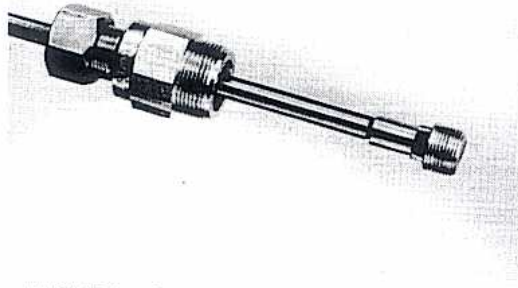

FIGURE 48
3. Attach completion plug to the boring bar or shaft. Lubricate these threads and be sure that these threads screw together freely without binding. Apply non-hardening pipe thread "dope" to the completion plug threads. FIGURE 48. (If installing a  $\frac{3}{4}$ " nipple, first attach inserting and extracting tool, part no. 80084, to the boring bar or shaft and then attach the completion plug to the tool.)